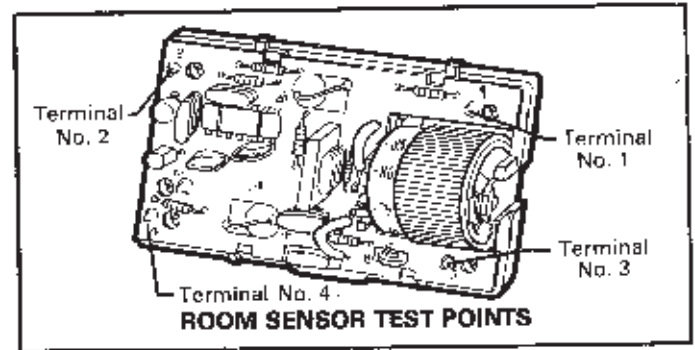

FIGURE 10
- 1 - Remove cover from room sensor. Connect voltmeter to terminals 3(-) and 4(+). See Figure 10.
- 5 - Table 1 lists voltage ranges that reflect conditions at room sensor. Refer to Figure 10 for meter connections.